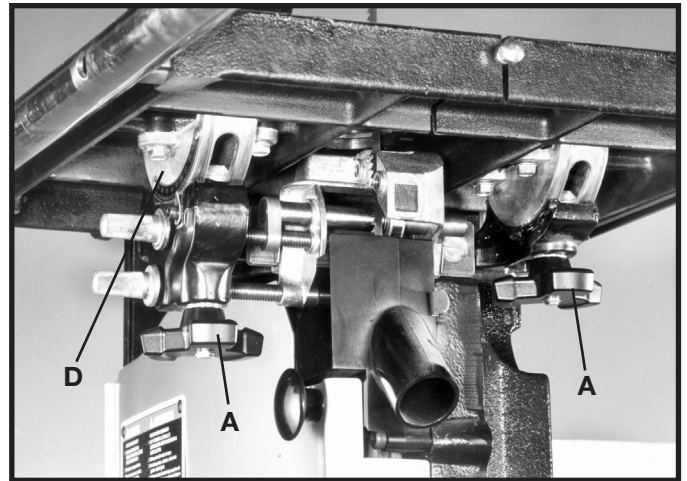
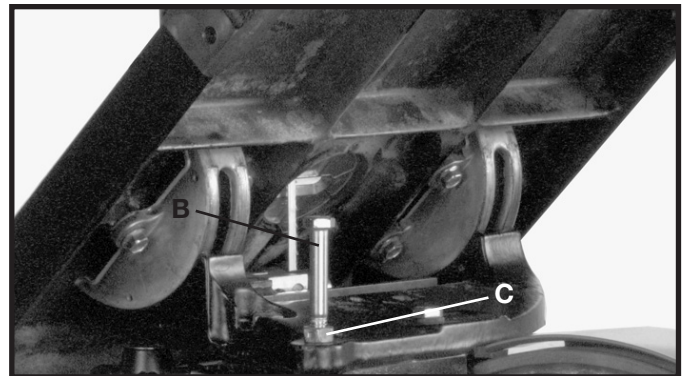
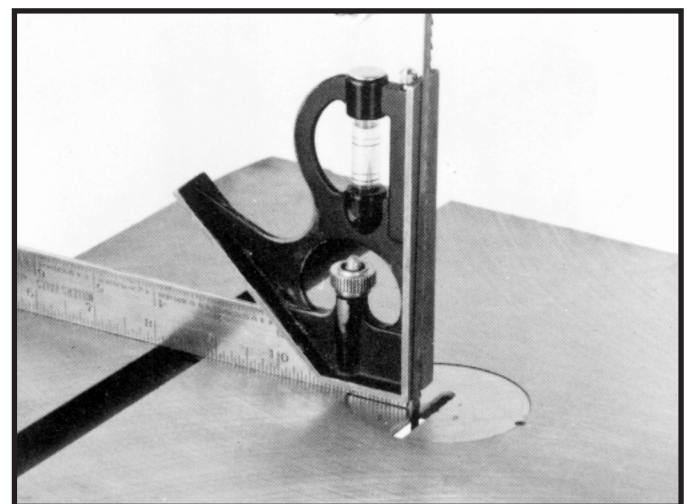

Fig. 18
Fig. 19
Fig. 20
1. The table on the band saw can be tilted 45 degrees to the right and 10 degrees to the left. To tilt the table to the right, loosen two locking knobs (A) Fig. 18, tilt the table to the desired angle as shown on scale (D), and tighten two locking knobs (A).
2. To tilt the table to the left, loosen two locking knobs (A) Fig. 18, and tilt the table slightly to the right until you can gain access to table stop (B) Fig. 19. Remove table stop (B) Fig. 19, and tilt the table to the left angle up to 10 degrees and tighten two locking knobs (A) Fig. 18. NOTE: Readjust the table stop. (See ADJUSTING TABLE STOP).
The band saw is equipped with an adjustable table stop (B) Fig. 19, that allows the table to be set perfectly at 90 degrees with the blade.
Tilt the table to the left until the table stop (B) Fig. 19, contacts the bottom of the table. Place a square on the table and against the blade as shown in Fig. 20, and check to see if the blade is 90 degrees to the table surface. If an adjustment is necessary, proceed as follows:
2. Turn adjustment nut (C) Fig. 19, right or left as necessary to raise or lower table stop (B).
3. Lower the table and make certain the table is 90 degrees to the blade as shown in Fig. 20.
4. It is necessary to remove the adjustable table stop (B) Fig. 19, when tilting the table to the left.